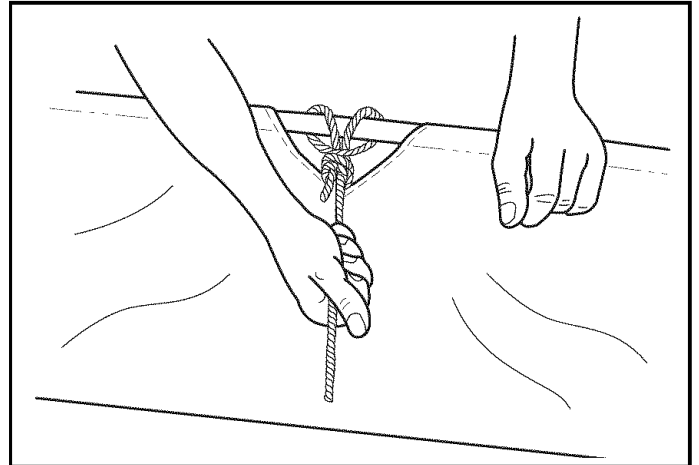

FIGURE 20
STEP 16: (SEE FIGURE 20 AND 21)